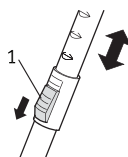

Figure 5
- The combi brush and the crevice nozzle are included in the package as accessories. You can store them in the accessory compartment when not in use (Fig. 5).